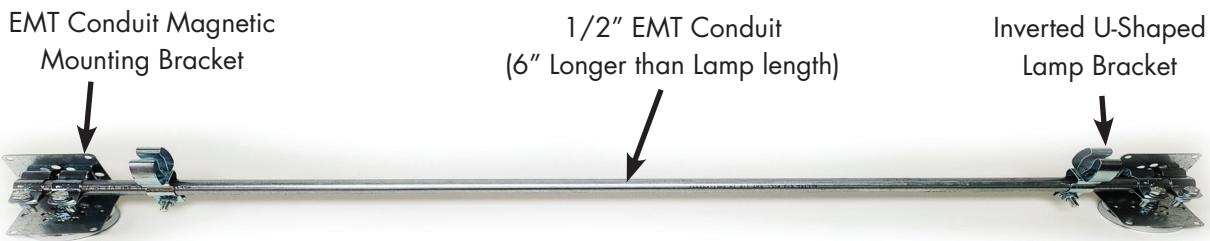

Figure 13: Single Lamp Support Rod Assembly for Single/Dual Lamp Models (Standard)
The Lamp Support Rod is supplied with magnetic foot mounts. The lamp support rod are available in several variations: (Reference Figures 13 through 20)
3. Lamp Support Kits Only – may contain mounting L brackets, lamp support brackets and magnetic disks with assembly hardware all shipped loose. Refer to optional lamp and 1/2" EMT conduit mounting accessories sections for additional information. The installer is responsible to supply the 1/2" EMT conduit, assemble and attach the mounting brackets and lamp support brackets to the EMT conduit (reference Figures 13, 14, 15, 16, 17, 18, 19 and 20) during installation.